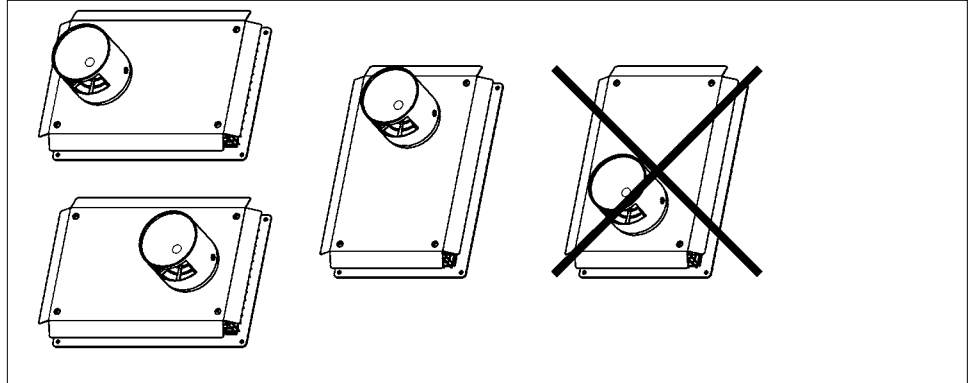

Figure 14: Allowed SST installation orientations
- The SST shall only be installed with the vent and intake pipes horizontally beside each other or vertically with the vent pipe on top as shown in Figure 14. The vent pipe cannot be installed below the intake. The vent cap must be installed with the openings directed up and down, as shown in Figure 14, and not side to side.